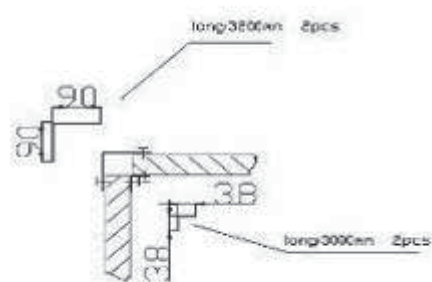

Fig. 2.23
3)Installate the edges inside and outside.(shown in Fig.2.23)